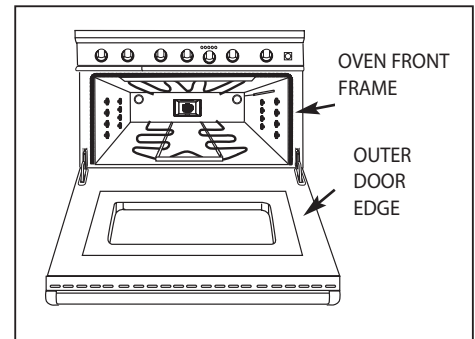

Fig. 14
- Clean the oven front frame and outer door edges. Wipe up large spillovers and grease. (see Fig. 14)